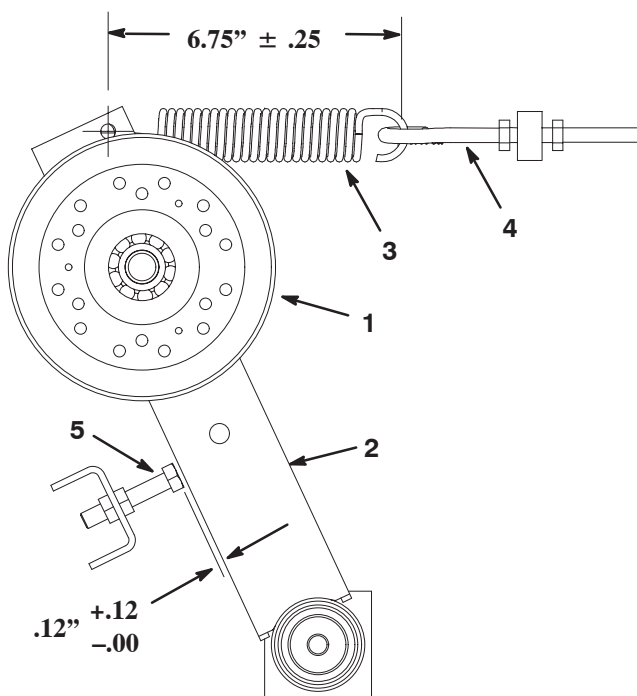

Figure 71
14. Tension the front idler pulleys (Fig. 71) as follows: